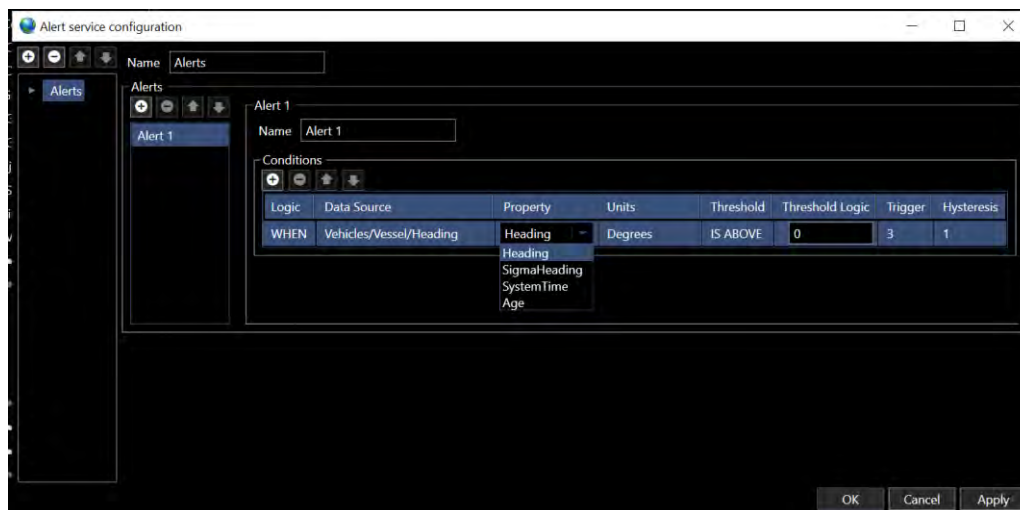

FIGURE 21-7 ALERT – PROPERTY SELECTION
- c. **Property:** Depending on what data source was selected, the available properties can be found by clicking in the property box (see Figure 21-7)